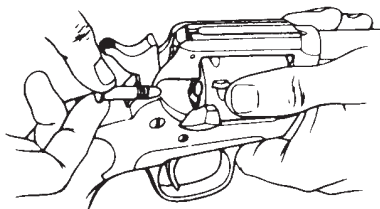

FIG. 2
2. Swing open the loading gate, and turning the cylinder by hand, insert the cartridges into the chambers as shown in Fig. 2. Close the loading gate after the cylinder has been loaded.